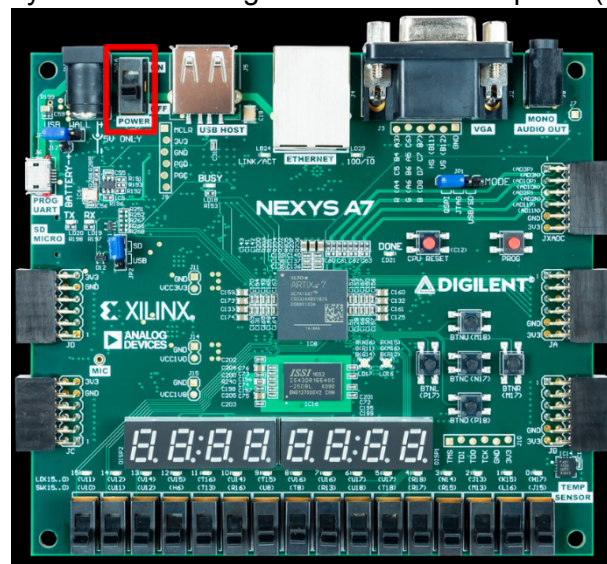

Figure 17. Nexys A7 Board ON/OFF Button
Step 2. Turn on the Nexys A7 board using the switch at the top left. (see Figure 17)